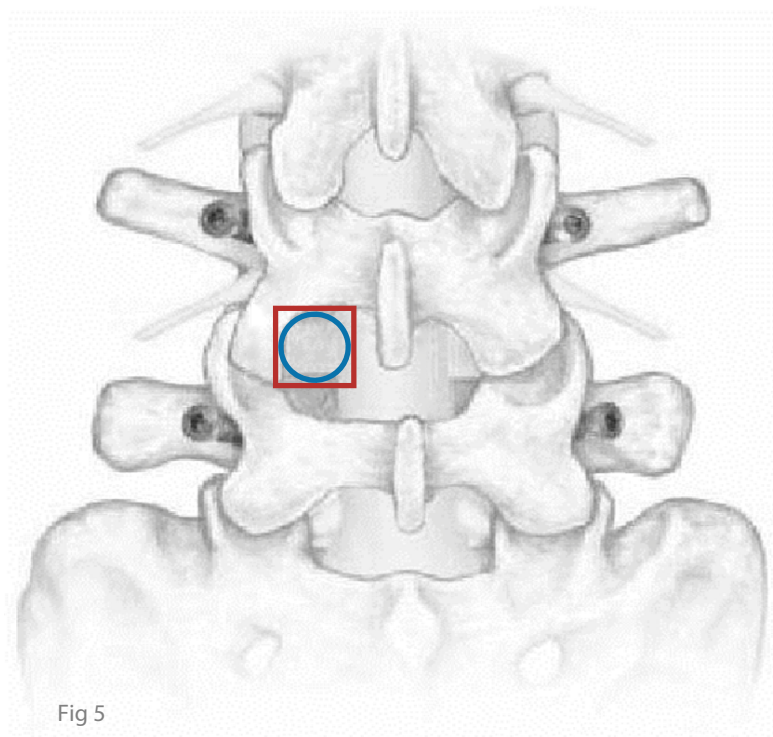

Fig 5
- Continue the access channel through the posterior annulus and cortical rim (blue circle in Figure 5).
- Shape the corners of the cortical rim to ensure the access is rectangular (red square in Figure 5). If a paddle shaver is used to create the access channel, Kerrison rongeurs are useful for squaring the corners.